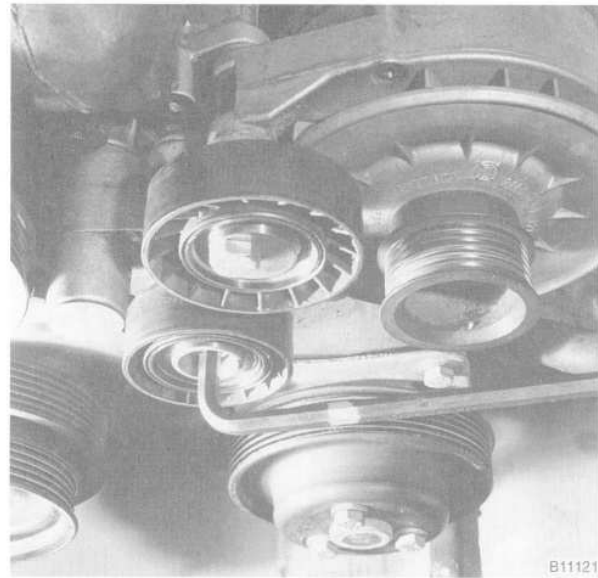

Fig. 7. Drive tensioner roller bolt being removed.
11. Remove the drive belt tensioner roller (upper). See Fig. 7. Then remove the tensioner mounting bolts and remove the tensioner assembly.